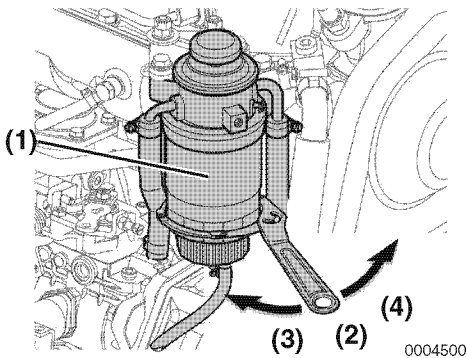

Figure 14
6. Remove the filter housing (Figure 14, (1)) with a filter wrench (Figure 14, (2)).